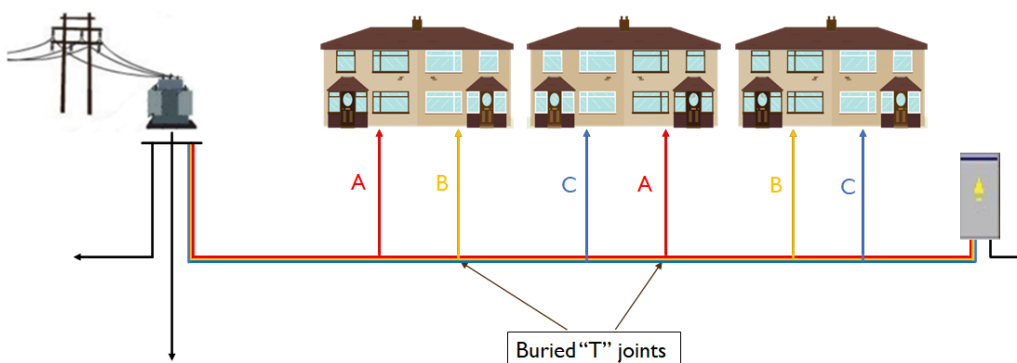

Figure 1.1: Network with consumers fed from underground Tee-joints
- the suspect cable cannot be isolated for fault-finding using a surge generator due to the topology of the network. An example of this is a system where individual consumers are fed from underground tee-joints, such as the example in Figure 1.1.